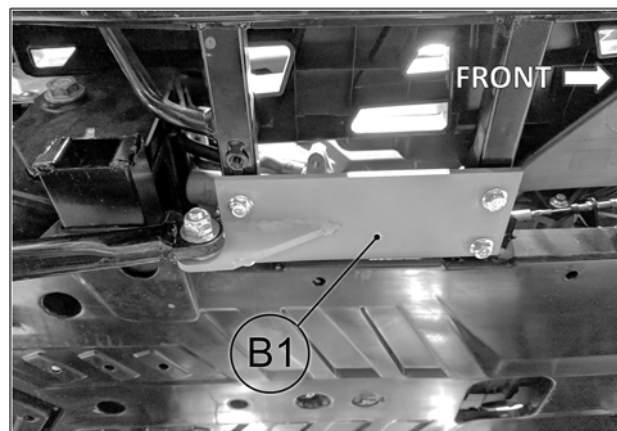

Fig. 4
5. Secure the anchor plate (B1) to the underside of the frame, in the same location, using the footrest assembly bolts just removed. See Fig. 4